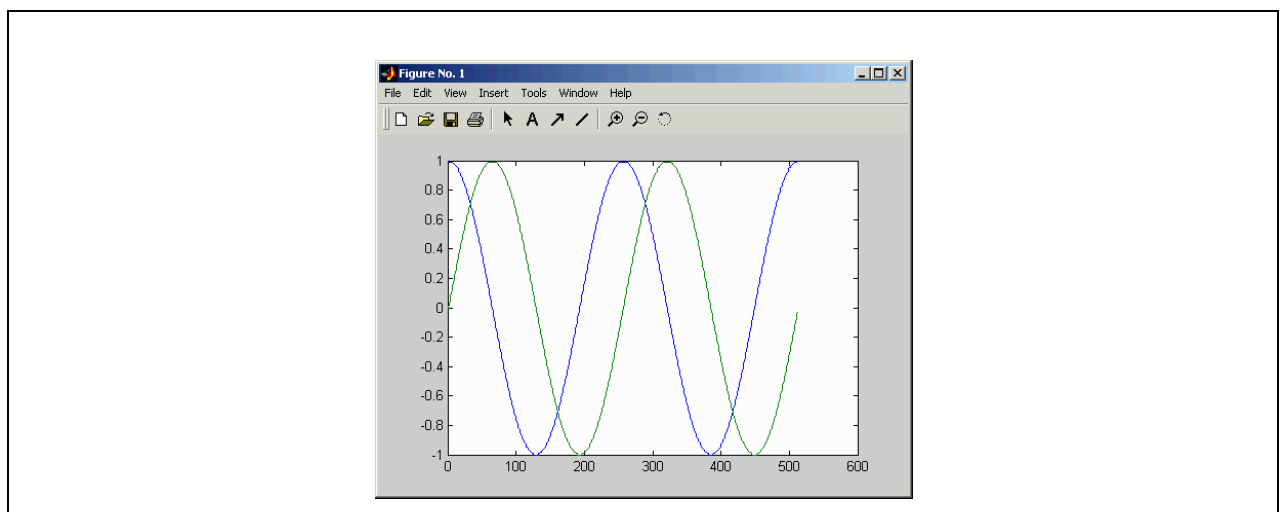

Figure 150: Plotted Data in MATLAB
3. The values can be plotted using the MATLAB plot function. Type: `plot(1:512, data0, 1:512, data1)` which gives the plot shown in **Figure 150 on page 220**.